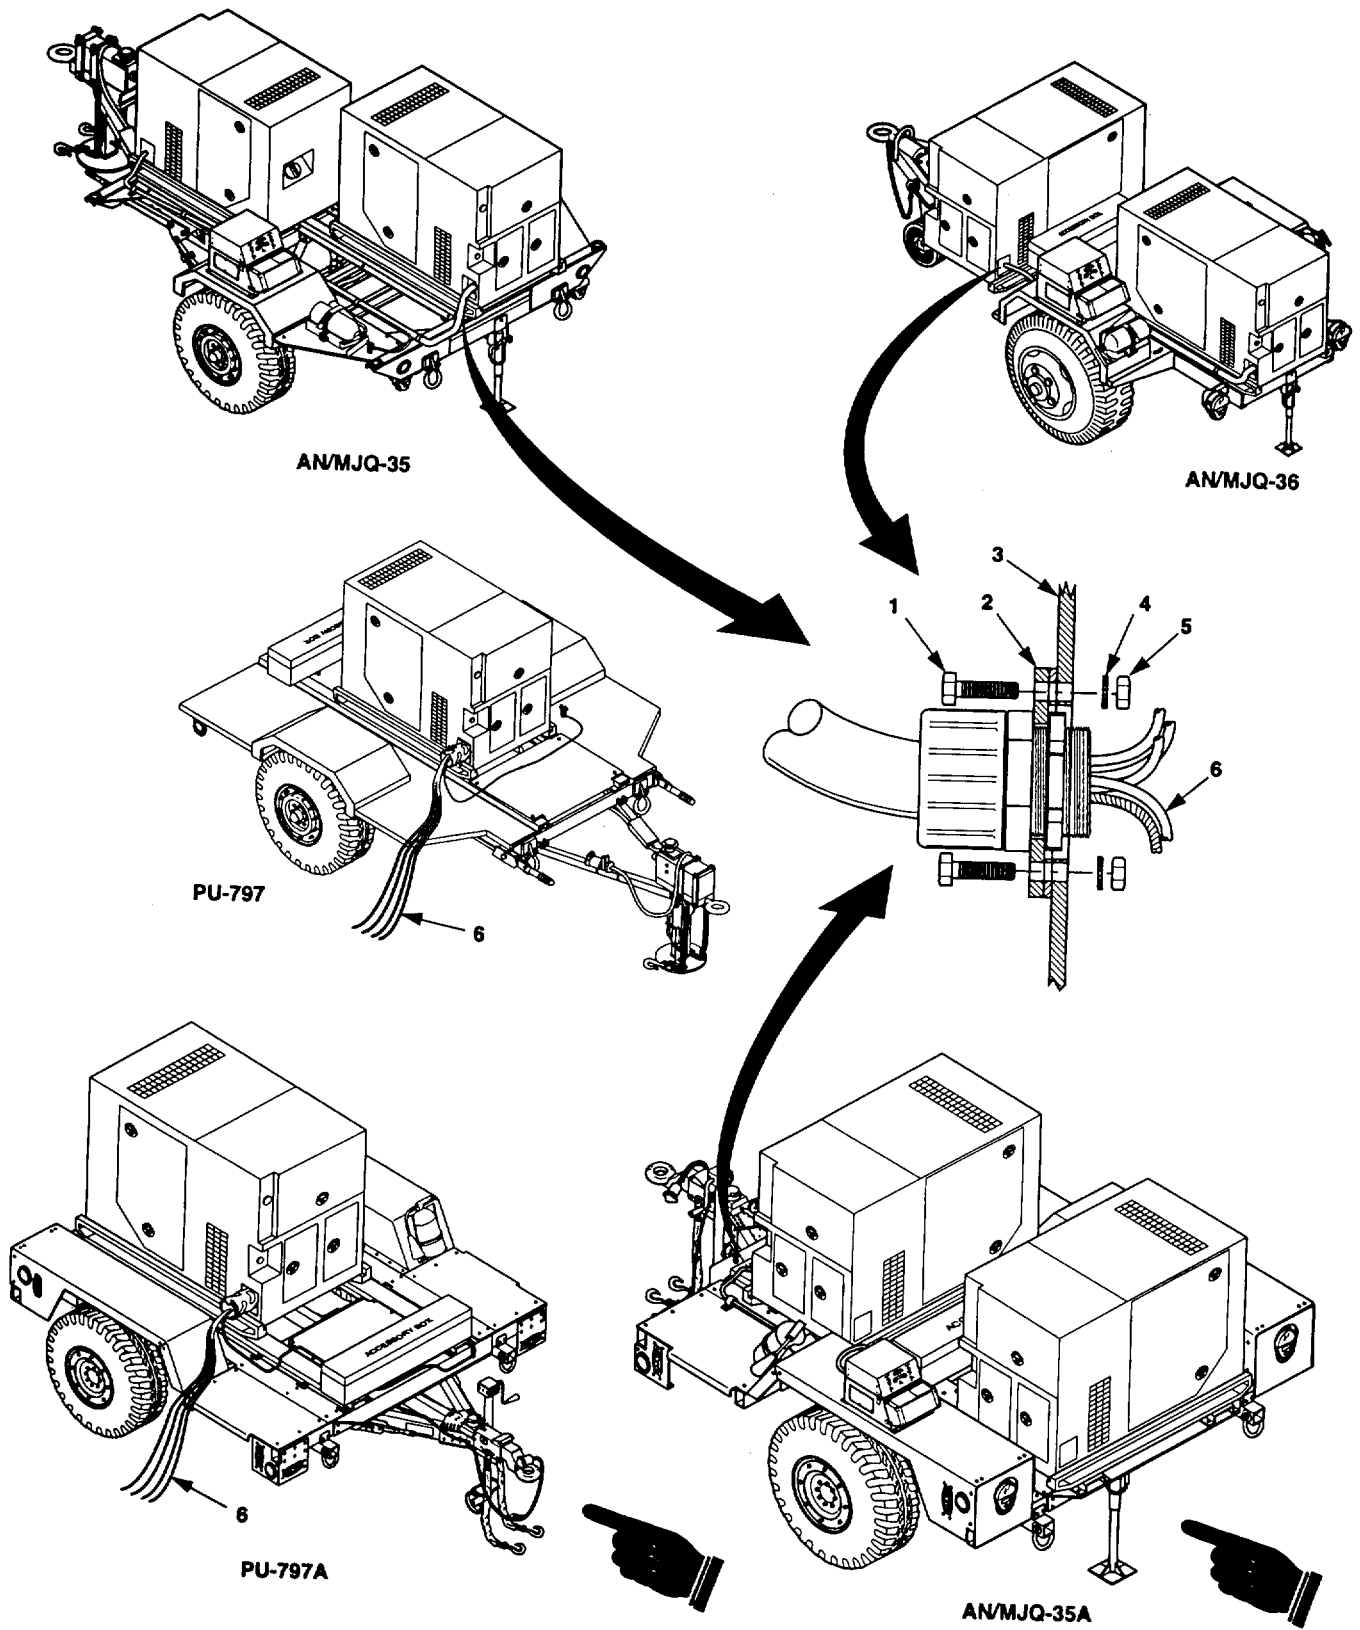
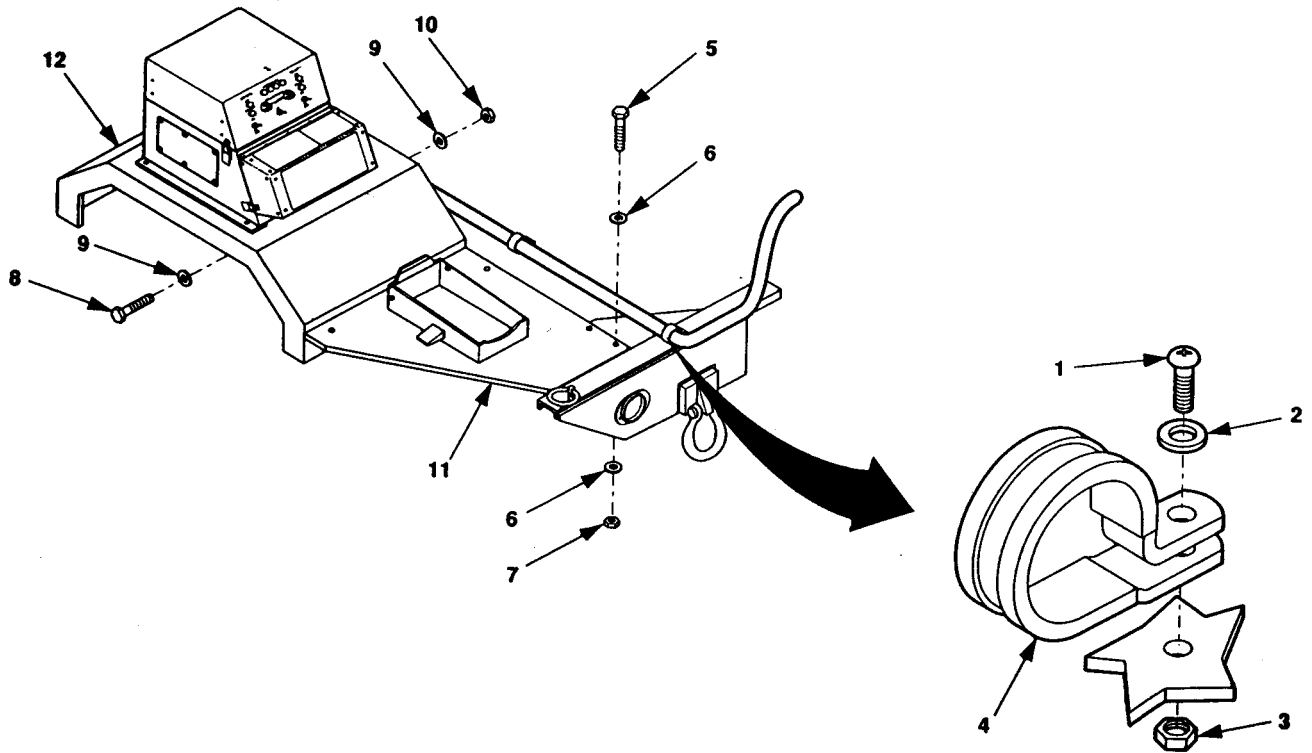

Figure 5-5. Power/Load Cable Removal.
Figure 5-6. AN/MJQ-35 Roadside Fender Assembly Removal.
3. Remove four nuts (3, figure 5-6), flat washers (2), and screws (1) from cable clamps (4).
4. Remove three nuts (7), six flat washers (6), and three screws (5) from inboard edge of splash guard (11).
5. Install four screws (8, figure 5-6), eight flat washers (9), and four self-locking nuts (10) in fender (12).
6. Install three screws (5), six flat washers (6), and three self-locking nuts (7) in inboard edge of splash guard (11).
7. Install cable clamps (4), screws (1), flat washers (2), and self-locking nuts (3).
9. Position generator output plate (2, figure 5-5, AN/MJQ-35, AN/MJQ-35A and AN/MJQ-36 only) with gasket (7) against generator set housing (3). Secure with four cap screws (1), lock washers (4), and nuts (5).
10. Refer to TM 9-6115-641-10 and connect power cable ends (6) to generator set load terminals as follows: